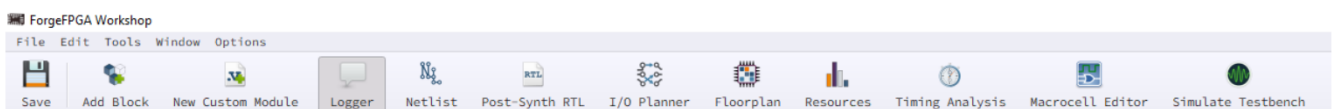

Figure 7: ForgeFPGA Tool Bar
6. Create Test Bench module and define the different inputs you want to run the code through to verify functionality at different time intervals. Simulate the testbench through the Simulate Testbench button on the toolbar (see Figure 7).